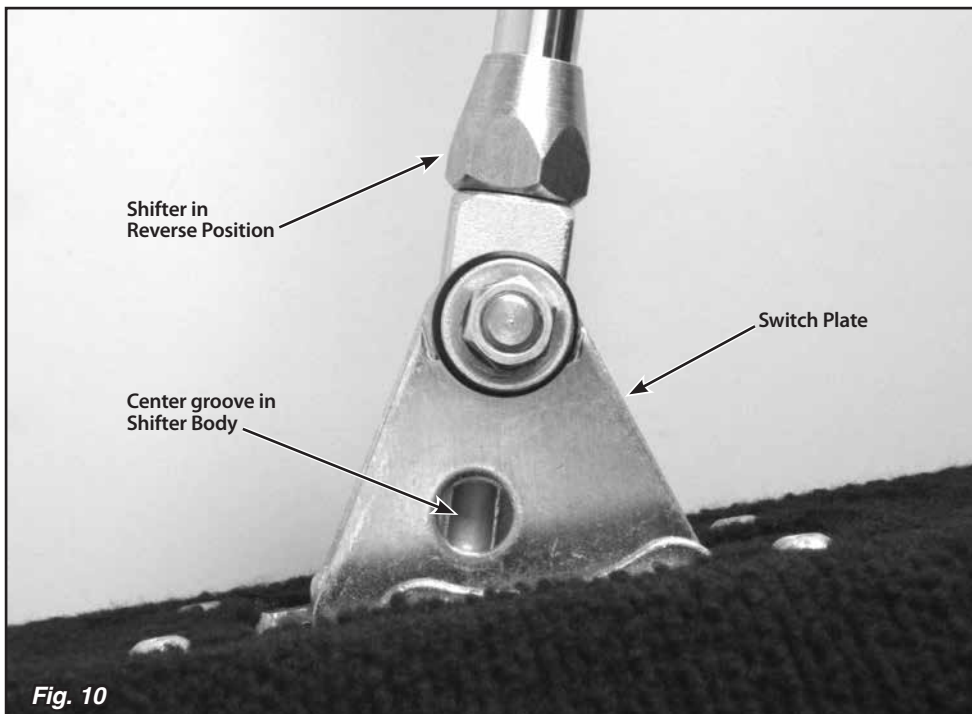
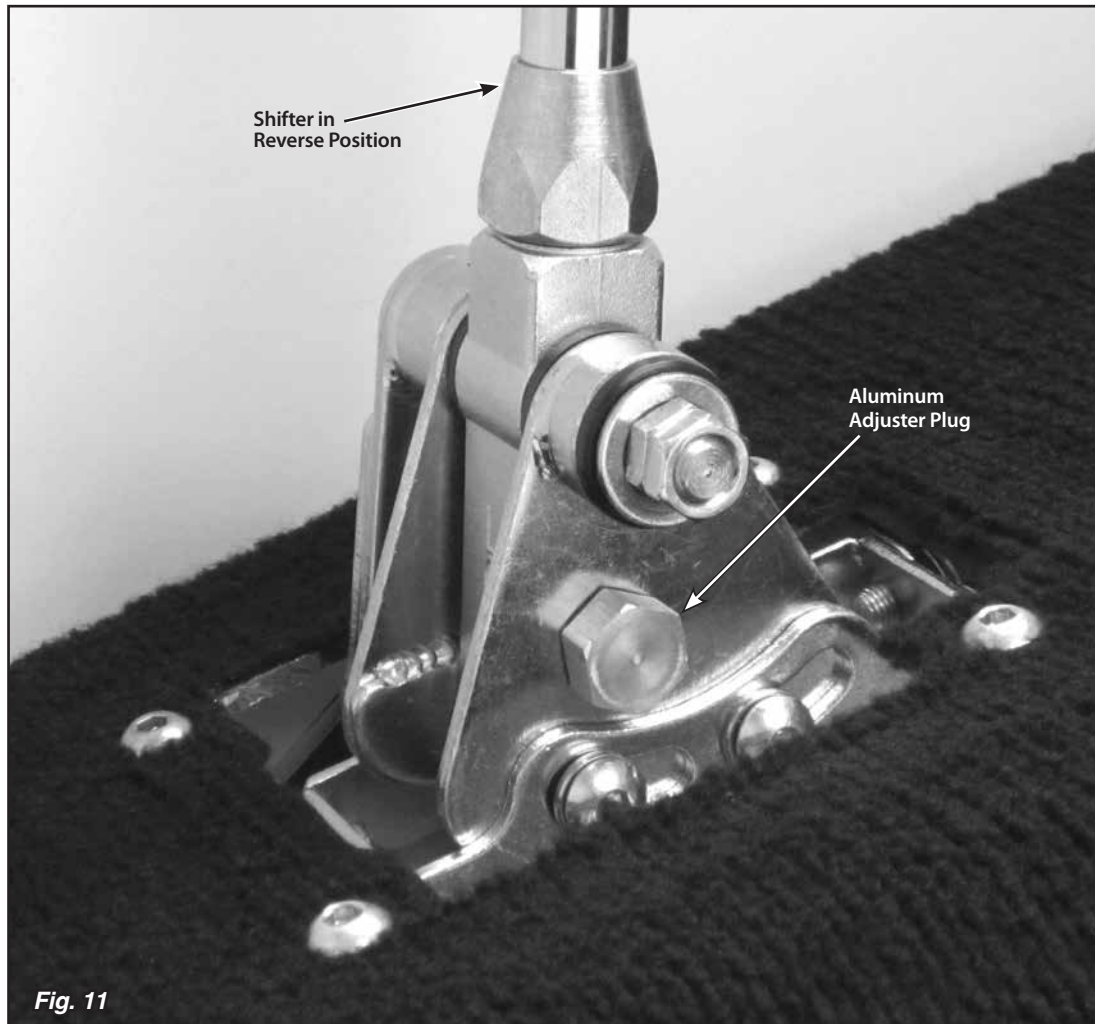

Fig. 10
Fig. 11
Step 16: Put the shifter into the Reverse position. Reposition the switch plate so that the hole in the switch plate lines up with the center groove in the shifter body. **Fig. 10** Screw the provided aluminum adjuster plug into the neutral safety switch opening. Wiggling the switch plate slightly forward and back while you are screwing the aluminum adjuster plug in will help get the shifter body centered on the adjuster plug. **Fig. 11**
- **If there are (2) connections for a neutral safety switch**, run a #12 (or heavier) stranded wire from these terminals in your fuse panel to the (2) terminals on the neutral safety switch. That completes the Neutral Safety Switch wiring.